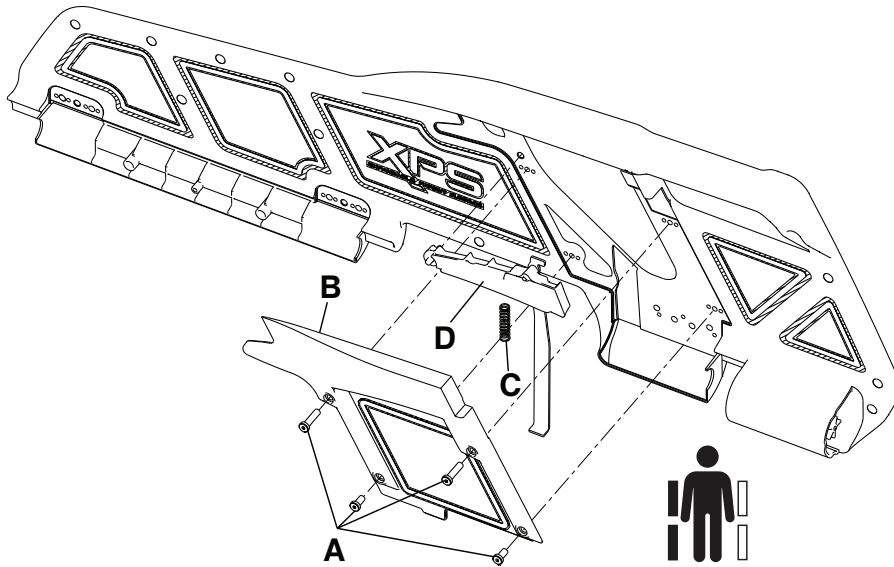

Figure 11 – Release/spring handle assembly replacement (XPS)
3. Using a 3/32" hex wrench, remove the four screws (A) that secure the release cover (B) to the overmold assembly to remove the release cover (Figure 11).
4. Using a small slotted screwdriver, pry the release handle return spring (C) up to remove the spring (Figure 11).
5. Grasp the release handle assembly (D), and hinge upward on the spring side to remove from the cover (Figure 11).